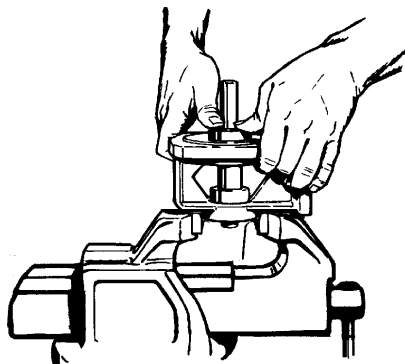

Figure 4-26
- Place the pedestal, pump mounting surface up, in a vise or suitable fixture and insert the bearing assembly. It should be possible to install the shaft assembly with firm thumb pressure. Refer to Figure 4-26. If more force is required, the butt end of a hammer handle or plastic mallet may be helpful. The shaft assembly should never be forced or driven in.